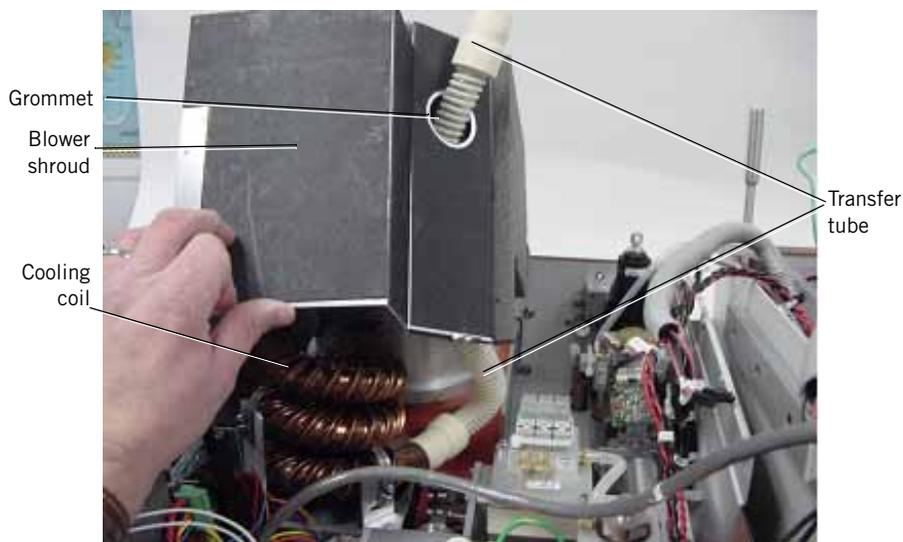

Figure 10-55: Blower Shroud
4. Pry the grommet from the blower shroud (Figure 10-55).
8. Place the shroud over the blower while pushing the transfer tube through the hole (Figure 10-55). Install the grommet.